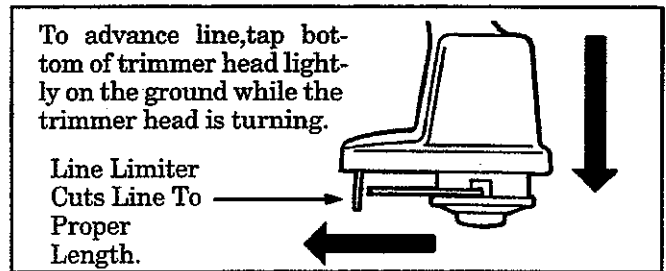

Figure 7
2. Tap the trimmer head lightly on the ground one time. Approximately 1 1/2 to 3 inches of line will be advanced after each tap. Figure 7.
NOTE: Approximately 1 1/2 to 3 inches of line can be advanced each time the tap button is pressed. Figure 7.